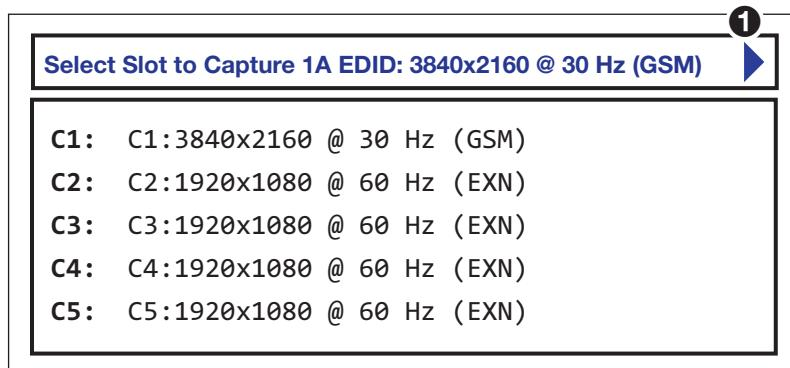

Figure 24. Custom EDID Slots List Example
2. Press the **◀** or **▶** button to select the display (output 1A or 1B) to assign the custom EDID. (The arrow button you press is reflected in the upper-right corner of the screen [see figure 24, **①**]).